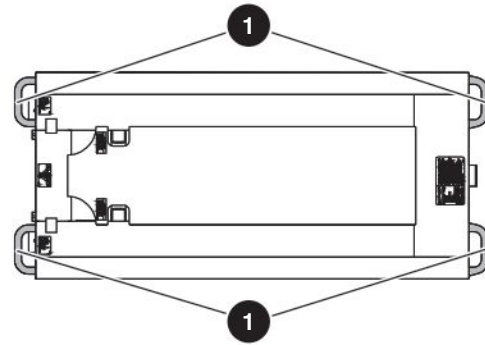
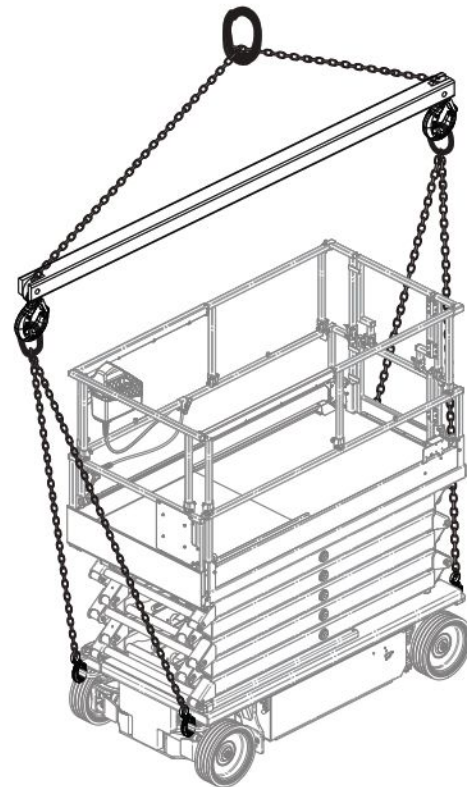
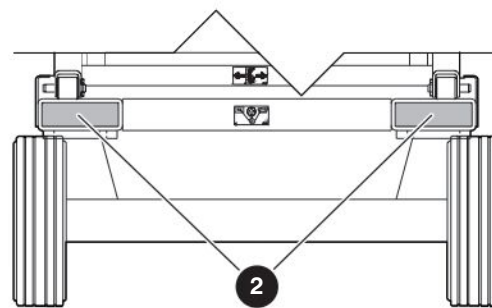

Figure 09 Lift and tie-down points
Figure 10 Appropriate method to hoist
Figure 11 Forklift pockets
- Attach the rigging to all **four lift points** ①, or lift with the forks in the designated **forklift pockets** ②. Refer to Figure 09, Figure 10, and Figure 11.
- Tie-down the MEWP to the transport vehicle using the four **tie-down points 1**. Refer to Figure 09.